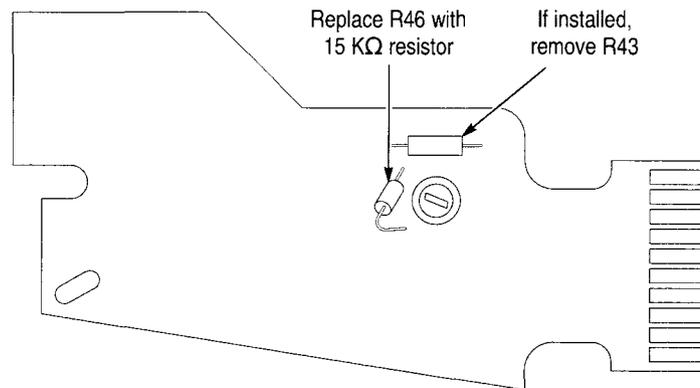

Figure 2: Configuring the circuit board (A6303 only)
- a. For the A6303 probe, replace R46 with the 15 k Ω resistor (322-3306-00). Remove any resistor at location R43. See Figure 2.